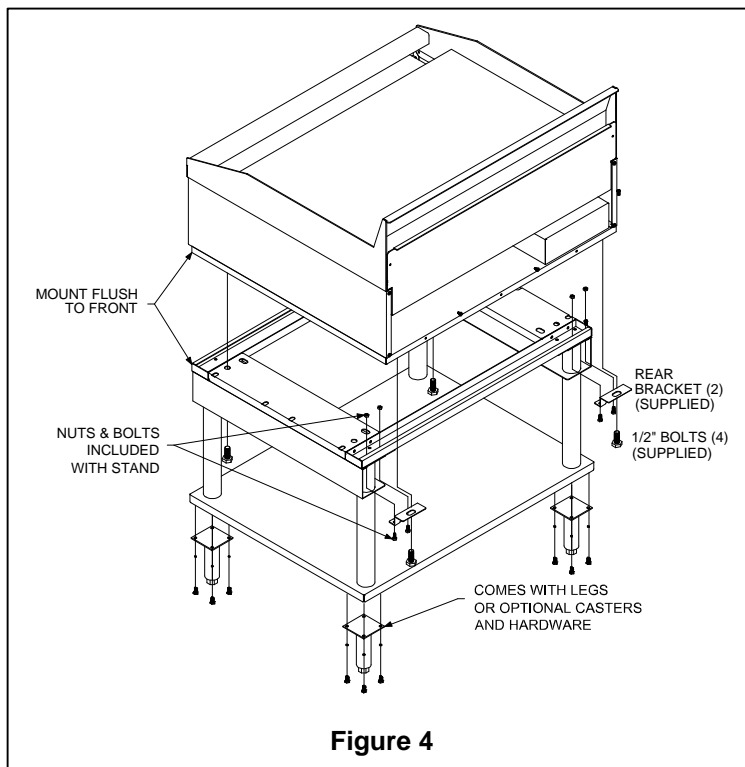

Figure 4
(See Figure 4). To mount the griddle to the stand, locate joining kit supplied with stand. The joining kit should include (2) rear mounting brackets, and (4) 1/2" mounting bolts. To mount the griddle to the equipment perform the steps on the following page: